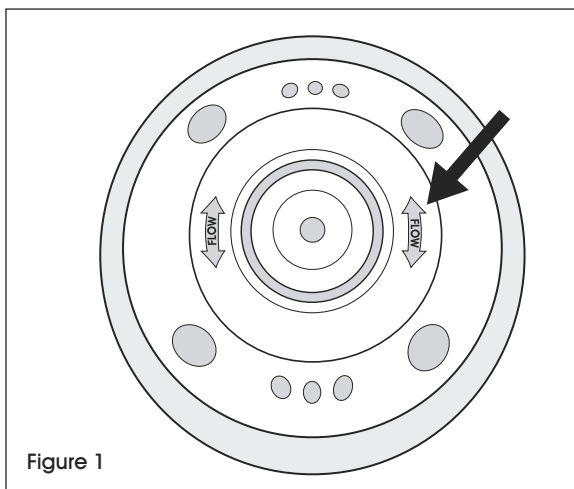

Figure 1
4. Immediately place the black plastic base in the center of the butyl pad. Flow arrows should align with the direction of traffic. Apply pressure. (See Figure 1)